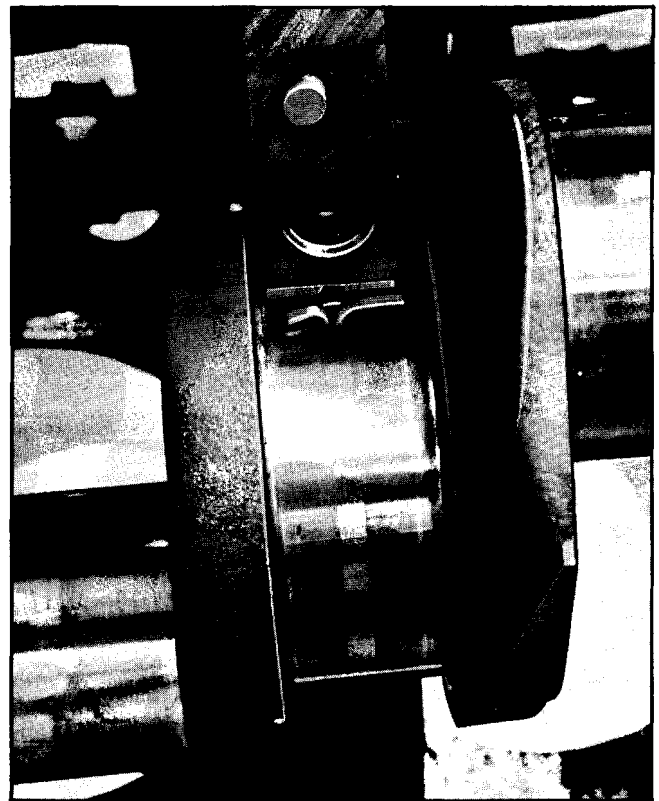

Fig. 6-147 Tool Installed for Removing Upper Half of Main Bearing
5. Insert tool in oil hole of crankshaft and rotate crankshaft in usual direction of rotation. This will cause bearing to be moved from between shaft and bearing seat (Fig. 6-147).